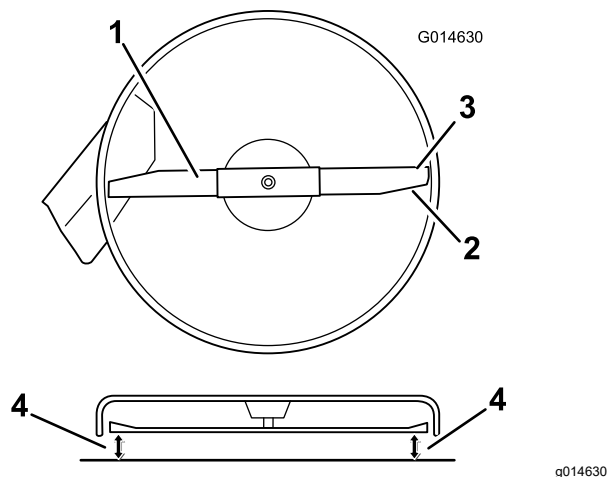
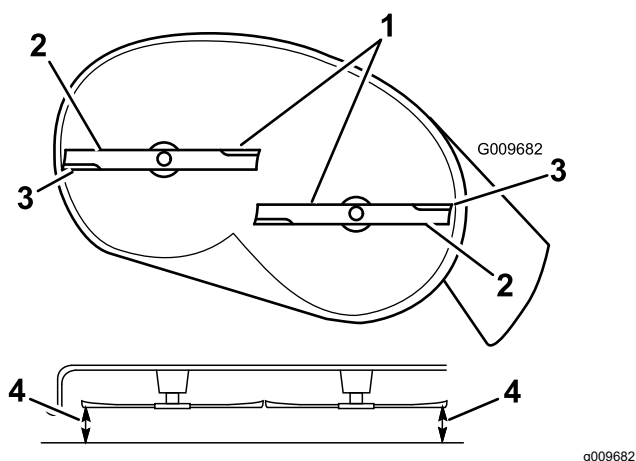

Figure 57
Figure 58
4. Carefully rotate the blade(s) so that they are all side to side (Figure 57 and Figure 58).
5. Measure between the outside cutting edges and the flat surface (Figure 57 and Figure 58).